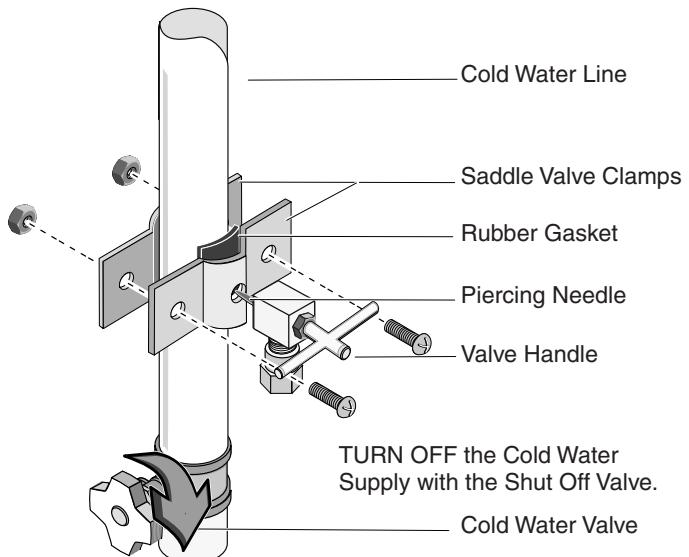

Figure 5
Install the saddle valve; See Figure 5.
- Install the saddle valve on the cold water line as shown in Figure 5.